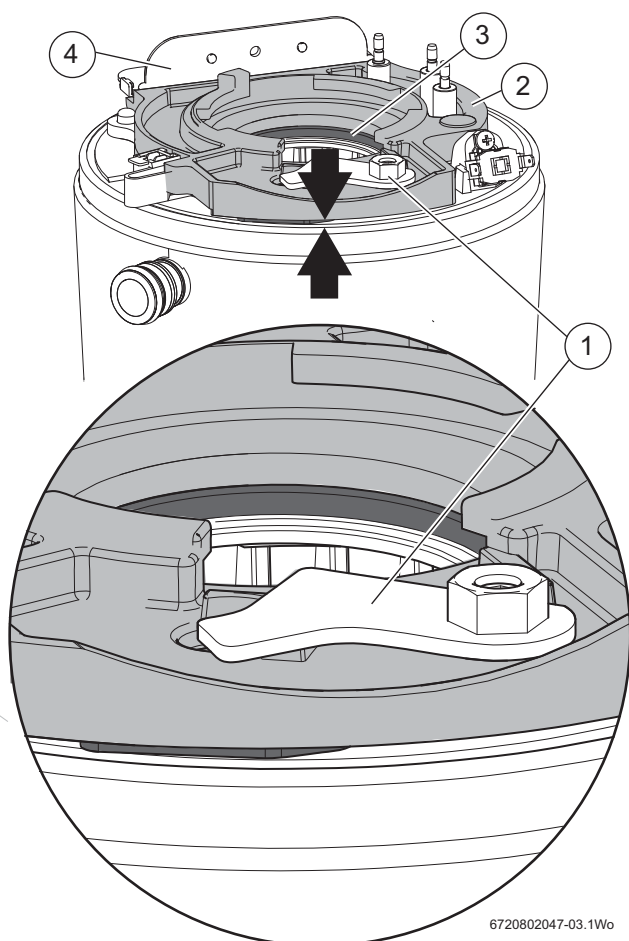

Fig. 81 Initial location of the clamping plate
- Ensure that the retaining plate [1] is in the position shown in figure 81
- Initially there will be a gap between the clamping plate and the top of the heat exchanger, refer to figure 81